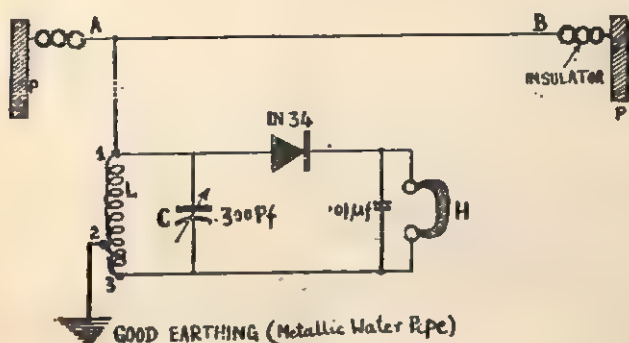

Fig. 13.7.
**Procedure.** (i) Draw the circuit diagram as shown in Fig. 13.7 on a wooden board with the help of suitable paint.